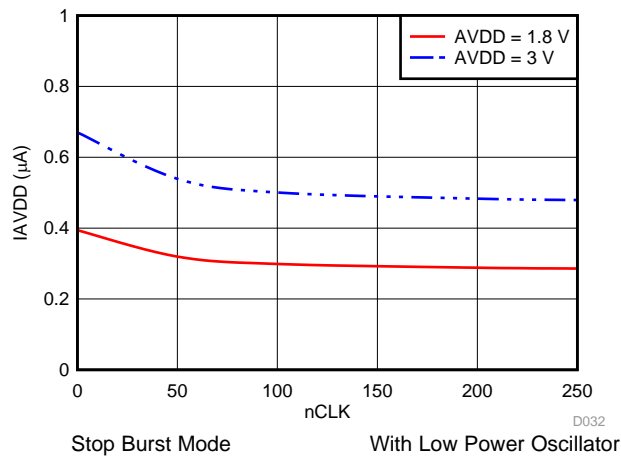
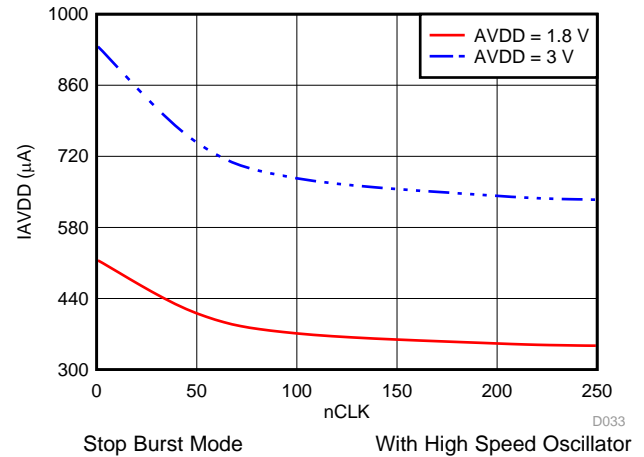
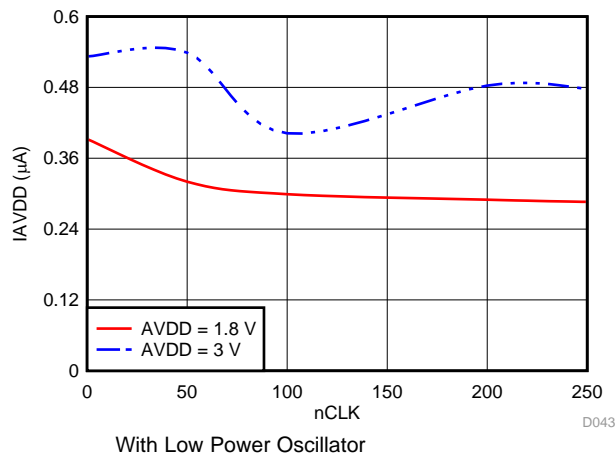
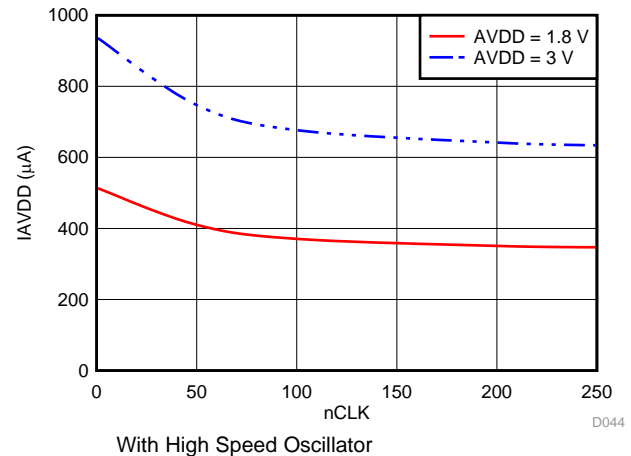

Figure 71. I_{AVDD} in Autonomous Modes with nCLK
Figure 72. I_{AVDD} in Autonomous Modes with nCLK
Figure 73. I_{AVDD} in High Precision Mode with nCLK
Figure 74. I_{AVDD} in High Precision Mode with nCLK
- In *Autonomous Modes* and *High Precision Mode*, the balance between sampling speed and power consumption can be obtained by selecting the oscillator for conversion and setting the $nCLK$ value. The device sampling speed and power consumption reduce by increasing the $nCLK$ value. Refer to Figure 71, Figure 72, Figure 73 and Figure 74 for current consumption in Autonomous modes and High Precision mode with different $nCLK$ values.